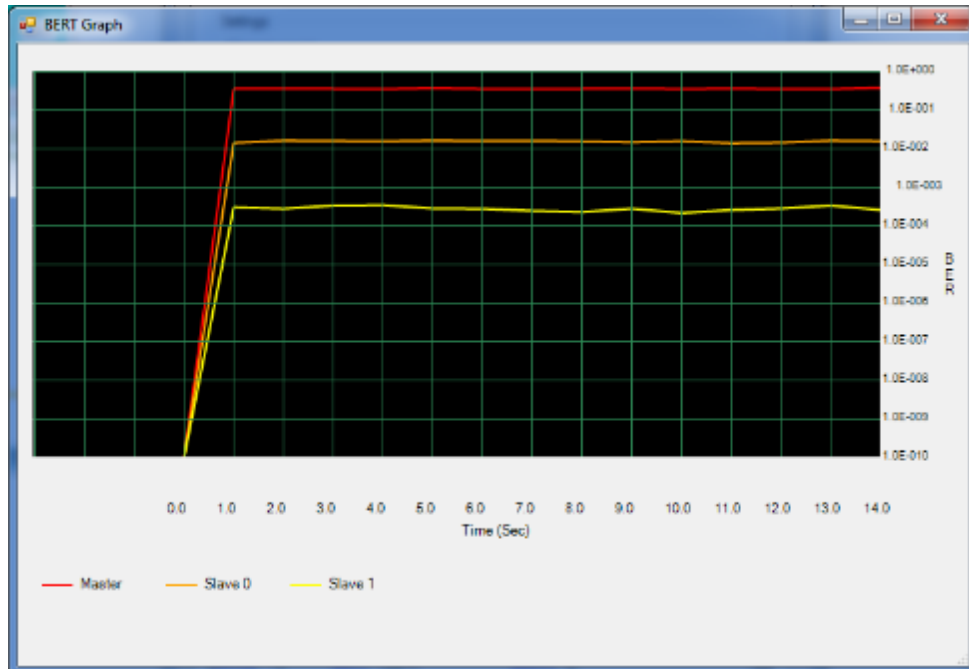

Figure 53: Graphical representation of bit errors
8. Bit errors can be visualized in graphical form by clicking on the *Graph* icon as shown in Figure 53.